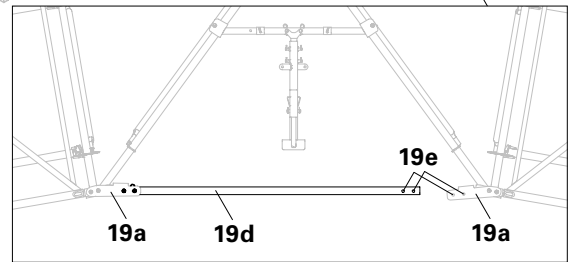

Fig. A5.03a
1. Push the rectangular tube (19d) on one side between the lugs (19a) of the Ridge Bar. (Fig. A5.03a)